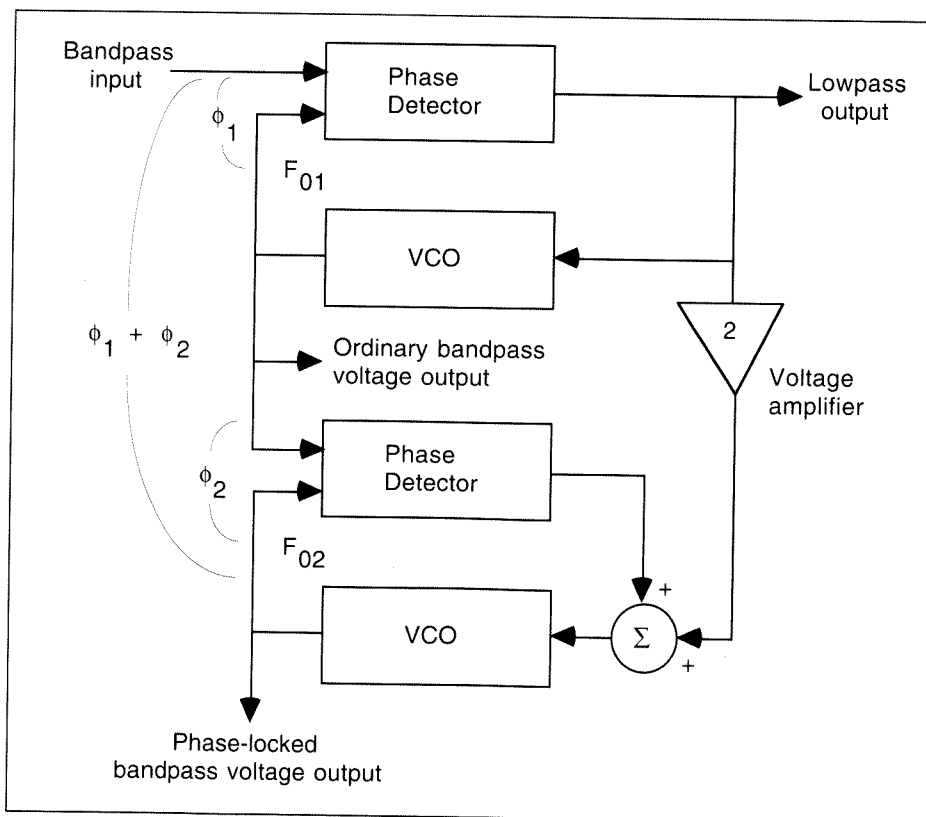

Figure 5. Block diagram of the phase tracking circuit.
We have now set the stage for the presentation of a true phase-locked loop — a patented circuit whose output maintains a constant phase relation with the input voltage independent of the frequency of the input voltage (3), see Figure 5. We have added a second PLL-whose behavior is affected by both outputs of the first PLL. Let the subscripts 1 and 2 be applied to parameters of the first and second PLL respectively. With both loops in lock, then $f_{o2} = f_{o1} = f_{in}$. As with any one PLL, this condition must be satisfied for the phase tracking circuit (PTC) to be usable. By coupling the correct voltage ("DC") from loop 1 into loop 2, we can force the second loop to compensate for this voltage by adjusting its phase ϕ_2 such that $\phi_1 + \phi_2$ does not vary with frequency. Therefore, we have real-
In our practice, an external DC voltage is applied to the summer of Figure 5 to set the desired value of ϕ_p and to compensate for differing values of the rest frequencies of the two PLLs. This is a static adjustment. With a FM input, the gain of the voltage amplifier is then adjusted to make k_L the same for both loops. This ensures that ϕ_{hip} does not vary with frequency. These adjustments are readily made by observing a suitable oscilloscope presentation.
The ability to vary ϕ_p in a known, controlled manner with an external voltage (third input to the summer of Figure 5) has useful applications. For example, in the interferometry method of direction finding, ϕ_p can compensate for the phase shift between two antenna elements and thereby create constructive or destructive interference when their outputs are summed. The condition of interference when detected can be related to wave angle of arrival (patent pending)(6). Conversely, in a transmitter feeding multiple antenna elements, use can be made of the voltage-controlled phase to sweep the beam spatially in a prescribed time-dependent manner. Clearly, using reciprocity, the same beam-forming system can be used to create a phased array for reception (search mode of the receiver). So, use of a PTC in series with each radiating element creates a simple, rapid, highly flexible and easily programmable (computer control of the tuning voltage) phased-array antenna.